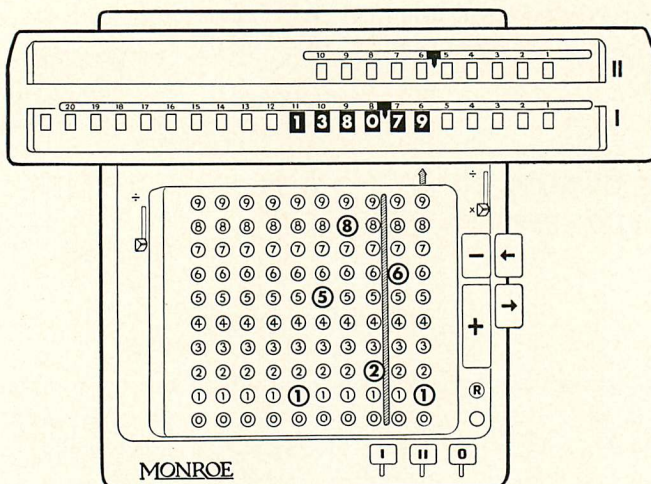

Figure 19
*Step 2*—Change keyboard set-up to 1582.61. Depress minus bar once. The amount of increase, 1380.79, appears in the lower dials as shown in Figure 19.